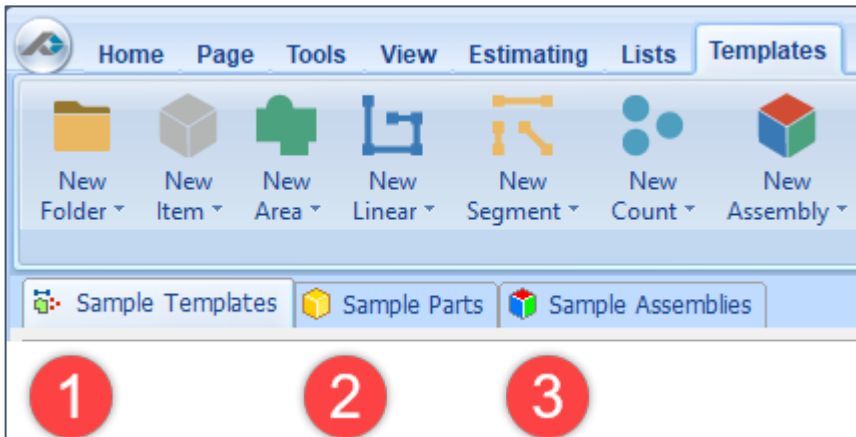

Figure 40-A
PlanSwift provides a sample library of prebuilt templates, parts, and assemblies. These are found in the **Templates** tab as custom tabs (Fig. 40-A).
1. Figure 40-B shows the **Sample Templates**.